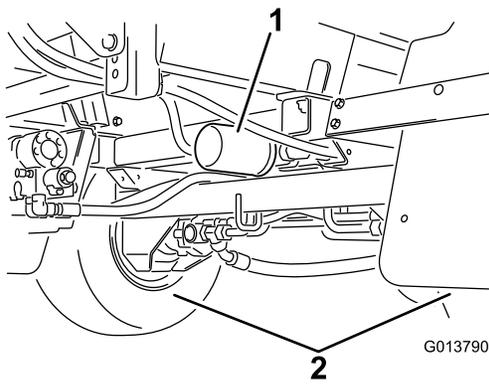

Figure 107
2. Locate the 2 hydraulic filters on the machine (Figure 106 and Figure 107).